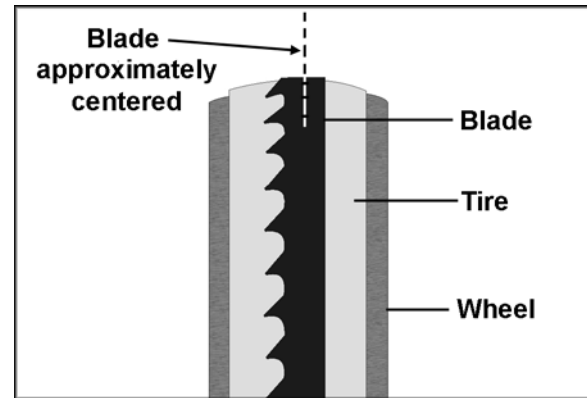

Figure 7-7
6. Rotate wheel by hand, observing position of blade through tracking window. The blade should ride approximately at center of tire (Figure 7-7).